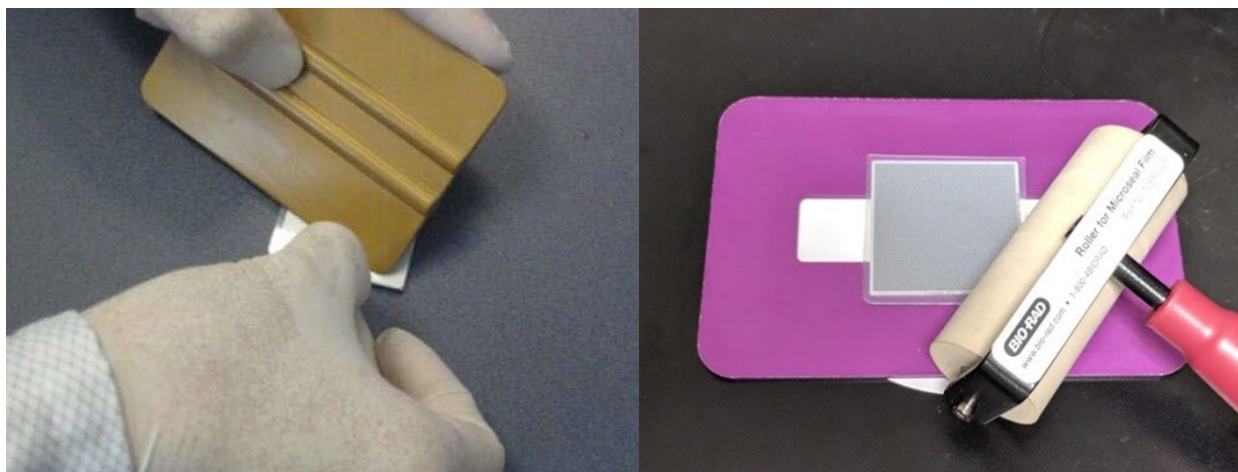

Figure 10. Sealing the blotted chip. Seal the blotted chip using (Left) a film applicator or (Right) a film sealing roller.
16. Seal the blotted chip with the film using a film applicator or sealing roller (Figure 10, below).
- d. At Step 13, remove the liner from only one side of the Optical Imaging film and apply the exposed sticky side of the imaging film to the chip, sealing carefully (similar to Figure 10, above).